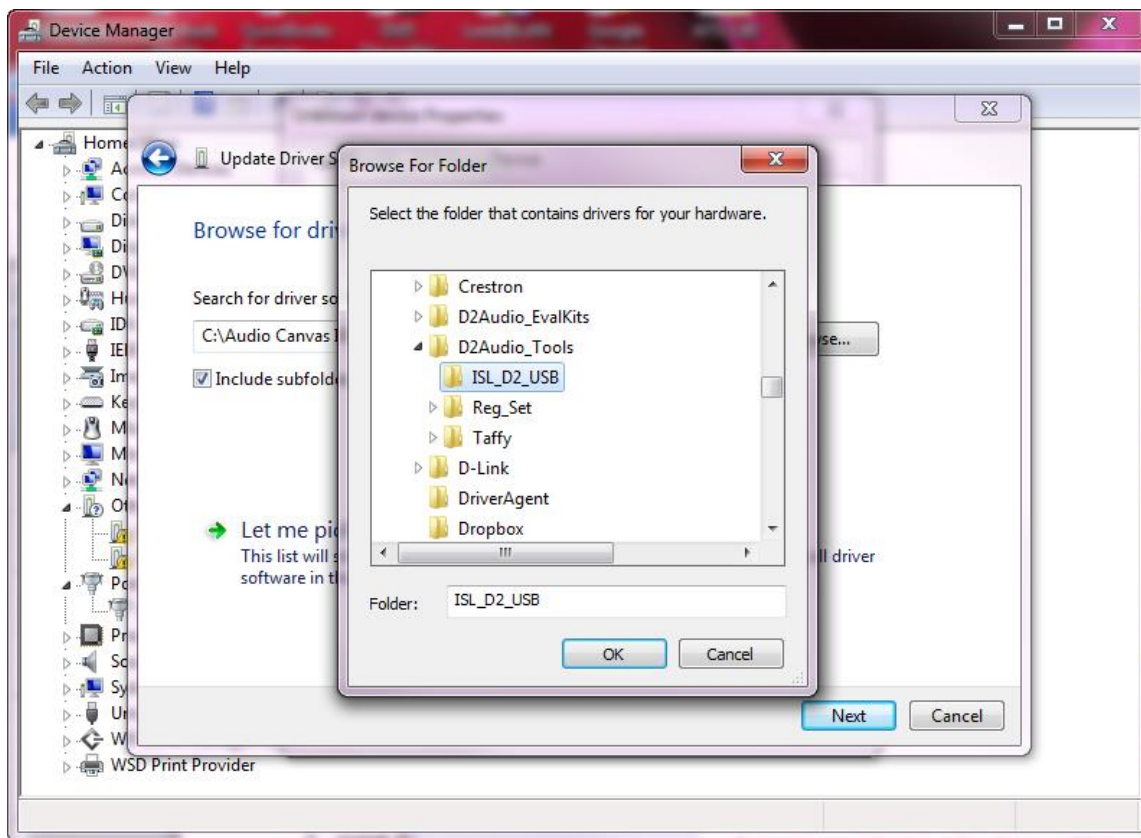

Figure B5: Browse for Driver Folder Menu
12. Select the Driver Folder location (NOTE: It might be a different Folder than the one shown in Figure B5)